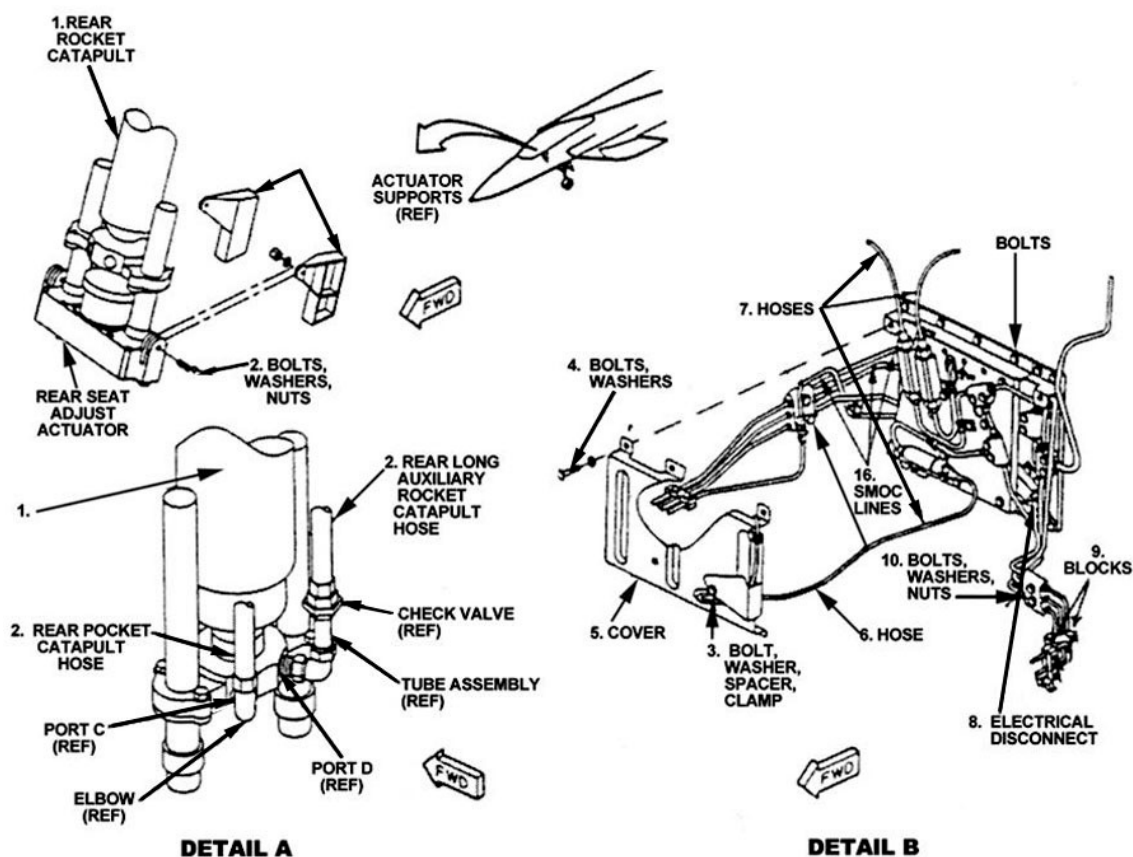

Figure 2-8. F-15 #3 pyrotechnic module.
Refer to figure 2-8 as we discuss the removal procedures. To remove the module, remove the ACES II seat and reposition the seat actuator/rocket catapult (fig. 2-8 detail A, item 1) so access may be gained to the module. Remove the bolts and hoses from the seat actuator and the rocket catapult (item 2), respectively. With the catapult disconnected, reposition it to the right side of the cockpit.
Remove the module cover to gain access to the pyrotechnic module (fig. 2-8 detail B, item 5). To do this; bolts, clamps, spacers, and washers (items 3, 4) must be removed. Anytime you're dealing with small parts such as the nuts and spacers; there's the potential for foreign object damage (FOD). On pyrotechnic modules, especially the #3, there are so many little pieces of hardware, the potential for cockpit FOD is increased. Remember to account for every item you remove—what it is and how many. In this way, you can make sure you haven't dropped anything into the cockpit or onto the flight line, which would instantly turn a standard removal or install into a FOD search. With the attaching hardware removed, the cover can slide (item 5) forward over the hose (item 6) connected to the SMDC-gas initiator, so that the three hoses (item 7) and electrical disconnect (item 8) may be
Refer back to figure 2-8 as we discuss installation procedures. Remove the protective covers from multiport connectors on the aircraft. If foreign objects are present, remove connectors, foreign objects, and reinstall connectors. Then reinstall the protective covers.